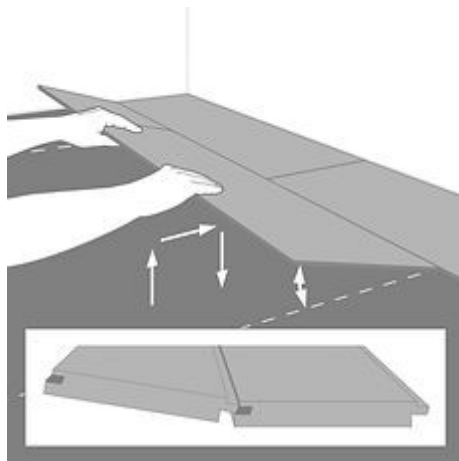

Figure 4
- 7.** Fit the second row as you did for the first: start on the left side and slide the groove of the panel under an angle of about 25° over the tongue of the previous row and click the groove into the tongue by laying down the panel while pushing it firmly against the first row (**Fig 4**).